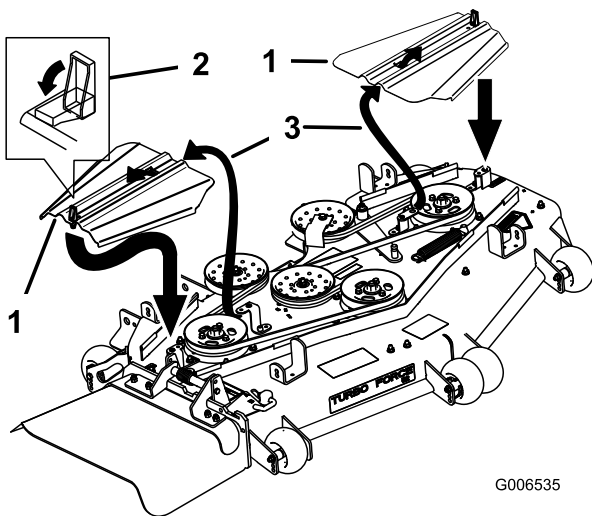

Figure 84
- Install the belt covers by sliding the cover into the tab, install the bolts, and close the latches (Figure 84).